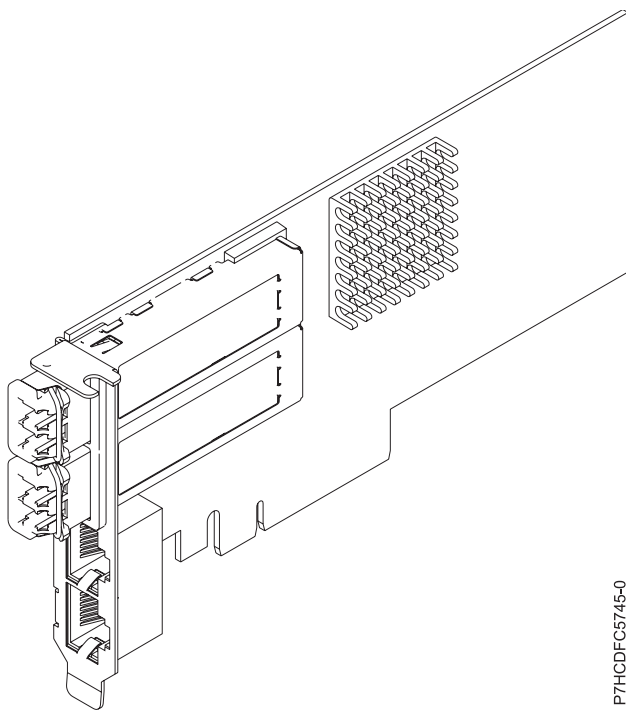

Figure 53. FC EN0K adapter
The four-port adapter provides two 10 Gb FCoE Copper Twin-axial ports and two 1 Gb RJ45 Ethernet ports. The two 10 Gb FCoE ports are connected by little connector-type (LC) connectors. Each FCoE port provides Ethernet connectivity with a nominal data rate of 10 Gbps (gigabits per second). Each of the 1 Gb ports provides Ethernet connectivity at a data rate of 1 Gbps and is connected with Ethernet cables. A 10 Mb data rate is not supported. Figure 53 shows the FC EN0K adapter.